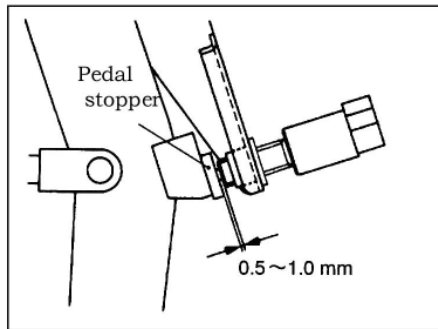

Fig. 16-3
- e. Return the stop lamp to the position as Fig.16-3, round it 1/4 circle in clockwise direction and then fix by tightening the lock nut.